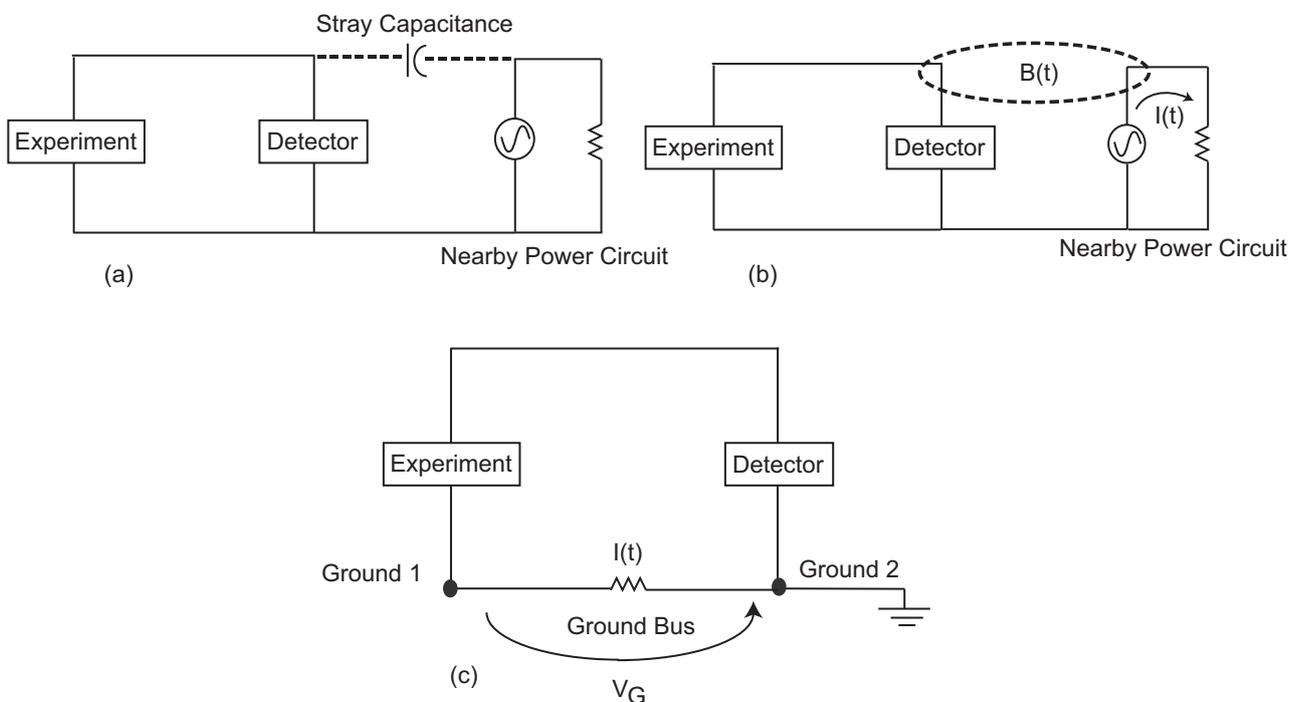

Figure 1: (a) Diagrammatic representation of capacitive noise coupling, (b) inductive noise coupling, and (c) resistive noise coupling.
**Capacitive Coupling** A voltage on a nearby piece of apparatus can couple to a detector via stray capacitance. Although the stray capacitance maybe small, but when coupled in, the resultant noise may be larger than weak experimental signal. It can be cured by removing or turning off the interfering noise source, or by installing capacitive shielding which can be done by placing the setup in a metal box. Consider Figure 1(a).
**Inductive Coupling** Extrinsic noise can also couple to the experiment via a magnetic field. A changing current in a nearby circuit gives rise to a changing magnetic field which induces an emf in the loop connecting the detector to the experiment. See Figure 1(b). This can be cured by using magnetic shielding, or by using twisted pair cables. An example of inductive coupling is the noise due to 50 Hz main power line, called “line interference” or the 50 Hz hum. It can be reduced by placing a notch filter which is centered around the line frequency.
the same potential. Thus, the detector measures the voltage across the experiment plus the voltage due to noise current passing through the finite resistance of the ground bus. This is shown by  $V_G$  in Figure 1(c). Resistive coupling can be cured by grounding everything to the same physical point.